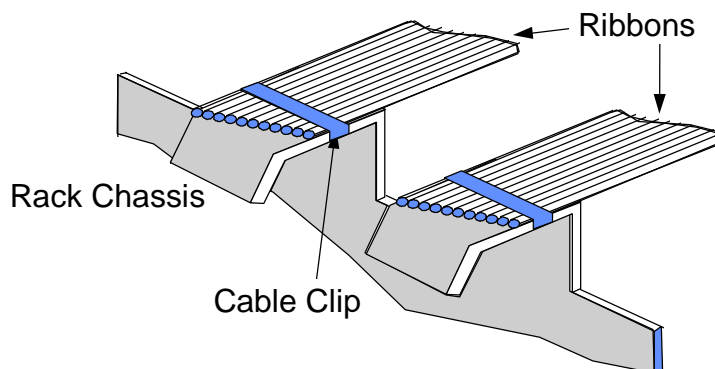
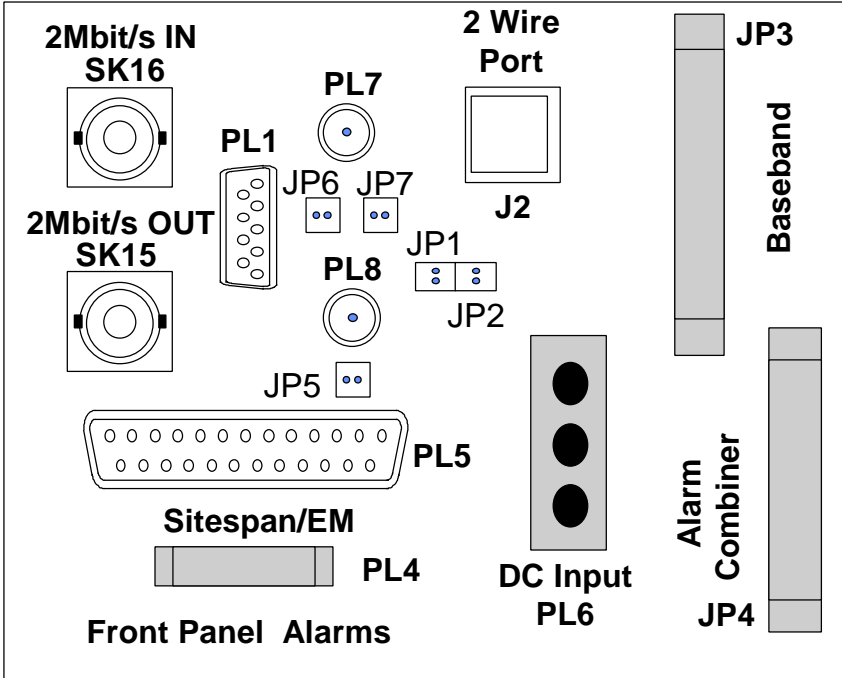
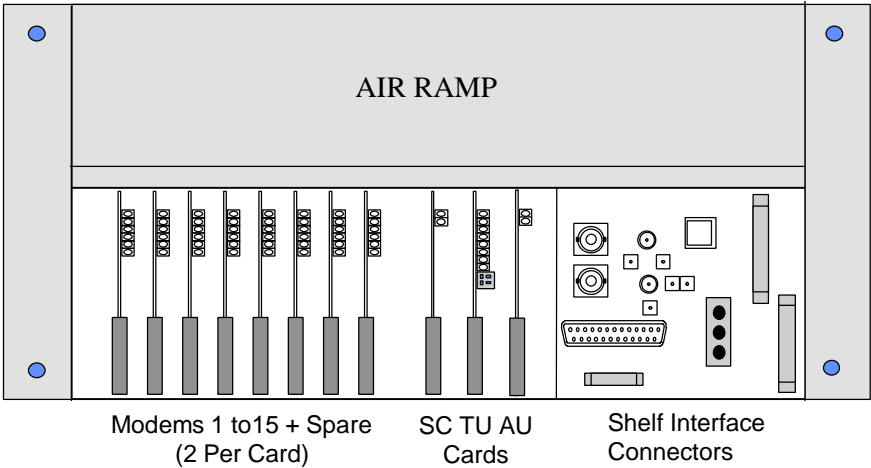

Figure 1-6. Securing Ribbon Cables
Figure 1-8. Shelf Interface Connections.
Figure 1-10. Modem Shelf
- g) Remove ribbons to JP3 and JP4. See Figure 1-6
- i) Remove the 2Mbit/s IN (SK16 - BNC or PL7 - Type 43) and 2Mbit/s OUT (SK15 - BNC or PL8 - Type 43) connectors on the shelf interface connections located at the right hand side of each modem shelf. See Figure 1-8 and Figure 1-10.
- c) Connect ribbons to JP3 and JP4. See Figure 1-8 and clip ribbons to the chassis as shown in Figure 1-6.